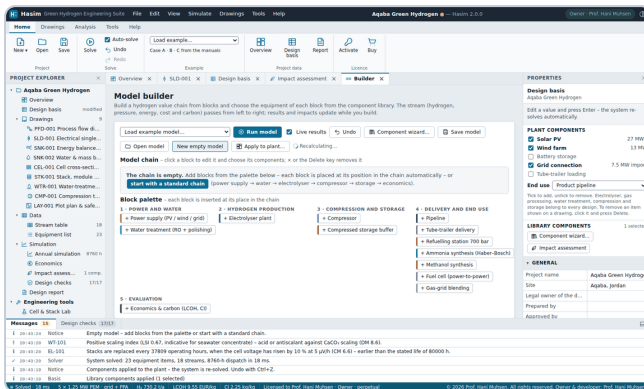

Figure S.9 – A new empty model with the start hint.
- 1 **Tools ► Model builder ► New empty model.** The empty chain explains how to start (Figure S.9).